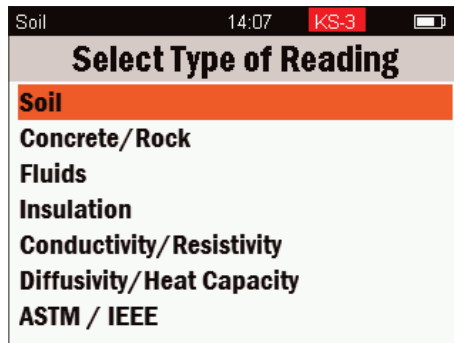

Figure 14 Select Type of Reading menu
The Select Type of Reading screen (Figure 14) will open. Within this menu, specialized configurations for specific materials and applications can be chosen (Table 3). Additional custom-configuration options for readings are also available.
4. Navigate to the desired type of reading from the Select Type of Reading menu (Figure 14).